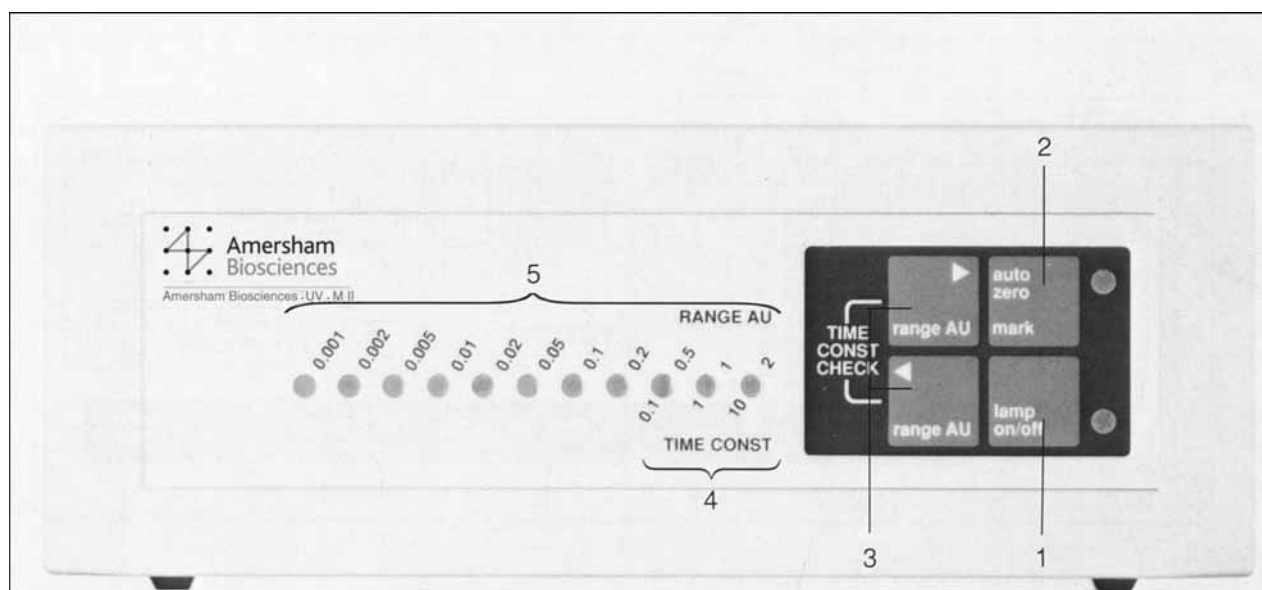

Fig. 2. Control Unit Front panel
3. Position the front panel onto the front of the Control Unit (see Fig. 2). Ensure that the touch panel keyboard on the front panel fits onto the instrument keyboard.